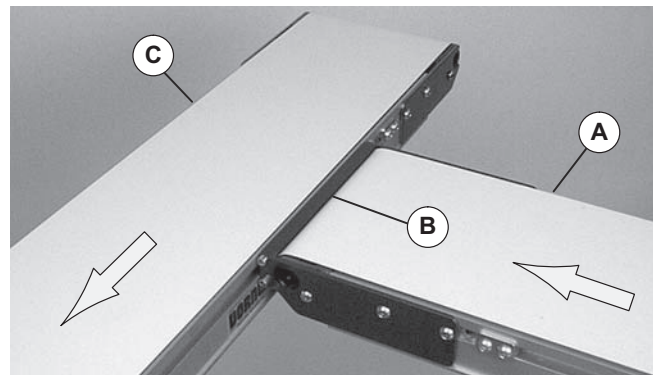

Figure 2
2. Identify infeed conveyor (Figure 2, item A) and outfeed conveyor (C). Install pulley transfer plate (B) on discharge end of infeed conveyor (A). See instructions in your Pulley Transfer Plates Set-up, Operation & Maintenance Manual.